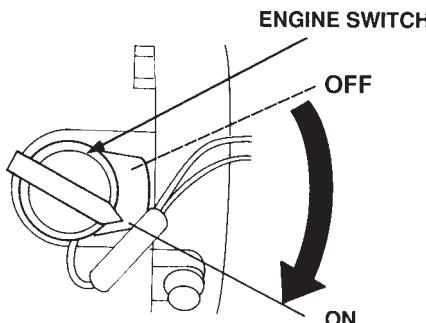

Figure 14. Engine ON/OFF Switch
4. Turn the engine switch (Figure 14) to the **ON** position.